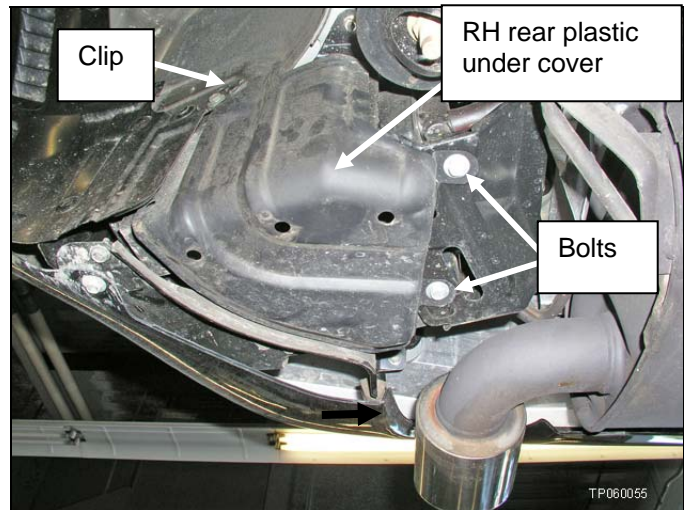

Figure 4
7. On the passenger (RH) side: remove two bolts and one clip and remove the rear plastic under cover (see Figure 4).